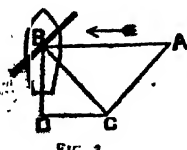
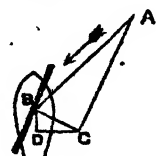

FIG. 3.
FIG. 4.
**SAILING WITH THE WIND ON THE BEAM**—called also *Sailing on a Reach or Reaching*.—In Fig. 3 is shown a vessel with a sail represented by the thick line. The wind blows from A in the direction A B. Now, under these circumstances, if the sail were set right across the vessel (as it would be to fit her for moving before the wind), the wind would only strike it on the edge, and produce no effect beyond shaking it. On the other hand, if it were turned "fore and aft"—*i.e.*, with its length in the direction of the length of the vessel—the wind would act upon it with great force, perhaps overturning the boat, and certainly blowing her more or less to leeward. But when the sail is held by suitable ropes in the position shown, then each particle of the stream of air which strikes the sail bounds off, after striking, right astern, or parallel with the line B D, just as a marble bounds off when thrown slantwise against a wall. Now, though this little paper is upon sailing, and not upon mathematics, it is yet necessary to point out, since "action and reaction are always equal," that the wind, in bounding off towards the stern, exerts a pressure—a kind of parting kick—upon the sail *in the contrary direction*. Two forces are thus at work upon the sail, one trying to drive it sideways, the other forwards. If the boat were round instead of long and pointed, it would, by the law known as the "composition of forces," be driven in the direction C B; but as the shape of the boat is such that it will easily slip bow first through the water, while it will only move sideways through it with difficulty, it follows that of the two pressures mentioned, the forward one, D B, alone produces much effect. Any little falling away to leeward caused by the pressure A B is corrected by the rudder. Thus the wind on the beam sends the boat ahead.
Taking the line A B to represent the force as well as the direction of the wind in Fig. 3, we can, by the law of "composition of forces," resolve it into the forces A C and C B, the latter representing the real pressure of the wind upon the sail. But C B, by the same law, resolves itself into C D and D B. D B (just half of A B) stands for the power finally available to drive the boat forward, while C D represents the power wasted in the fruitless attempt to drive her sideways. When the wind is on the beam about half the effect produced by it on the sail is thus wasted.
**SAILING WITH THE WIND ON EITHER BOW**, called also *Sailing on a Wind or Sailing close-hauled*.—In Fig. 4 we have the wind on the starboard bow. By setting the sail to the angle shown, and by the same process of reasoning as in the last case, we get a force resulting in the direction C B, resolvable into C D and D B as before, but with the difference that C D, the part wasted, is now very much larger than the useful force, D B. No arrangement of sail can enable the vessel to advance when the wind is dead against her, and few boats can sail when it is more unfavourable than is shown in Fig. 4. Some have done so, but to sail "within less than four points of the wind" is a rare achievement: a boat must be built expressly for sailing to do so well, since the amount of useful power then gained from the wind is too slight to move a clumsy hull through the water.
Ships and boats are rigged very differently. The former depend chiefly on *square sails* hung to horizontal yards, placed *across* the ship (as in Fig. 3), half of the yard and sail being on each side of the mast it hangs from. Square sails are best for running before the wind; but they cannot be braced round far enough to enable the ship to sail as close to the wind as is shown in Fig. 4 (although for convenience the boat is there represented with a square sail). Small vessels and boats carry *fore-and-aft sails*—i.e., sails which naturally hang in a line with the keel: these are more manageable. The "lug" is the only approach to a square sail carried by a boat.